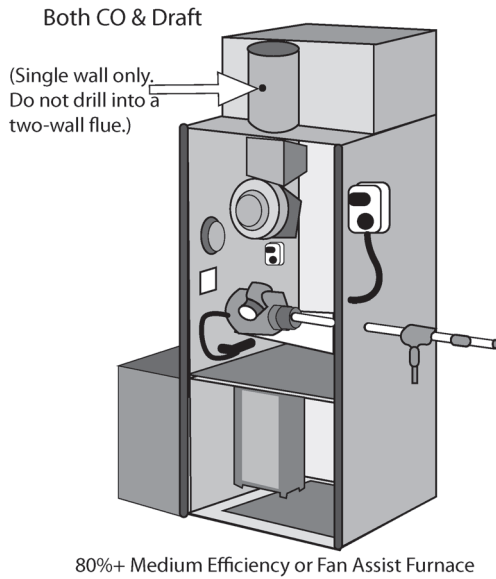

Figure 9-59. Medium Efficiency Furnaces and Boilers-CO and Draft Checks are at the Same Location on Gas-Fired Medium Efficiency Furnaces and Boilers
- 80%+ /Medium Efficiency /Fan Assist Furnaces: Single Wall Flue (Figure 9-59)—Drill a hole into the flue just large enough for the analyzer probe at 1 to 2 ft above the vent connection or just beyond the first elbow. Do not drill into corrugated flues.